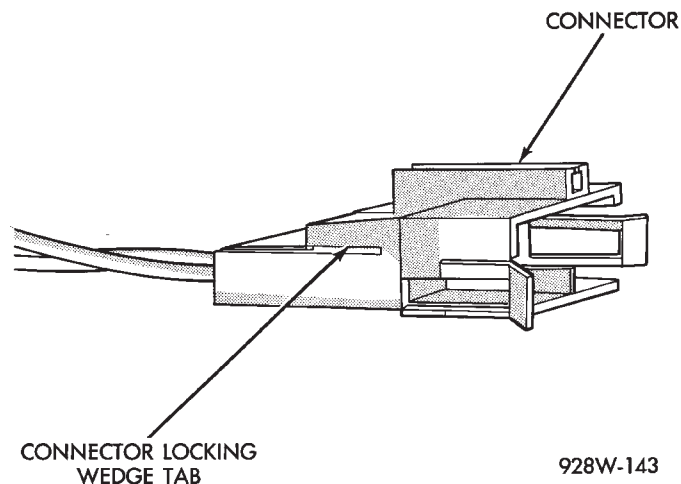

Fig. 17 Connector Locking Wedge
- (1) Disconnect battery.
- (2) Disconnect the connector that is to be repaired from its mating half/component
- (3) Remove the connector locking wedge, if required (Fig. 17)